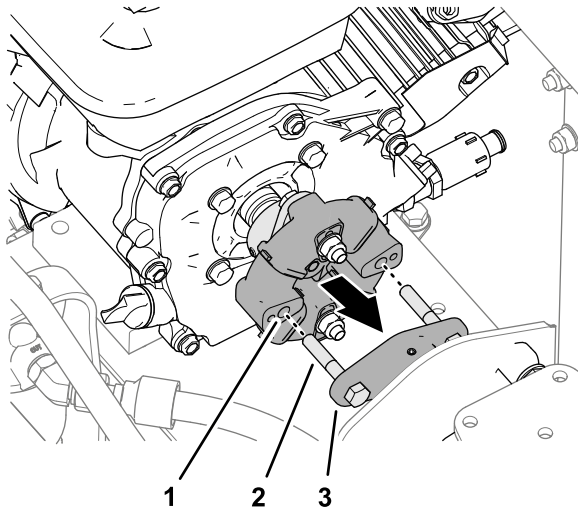

Figure 23
1. Align the holes in the coupler with the 2 bolts (8 mm) in the hydraulic-pump hub (Figure 23).